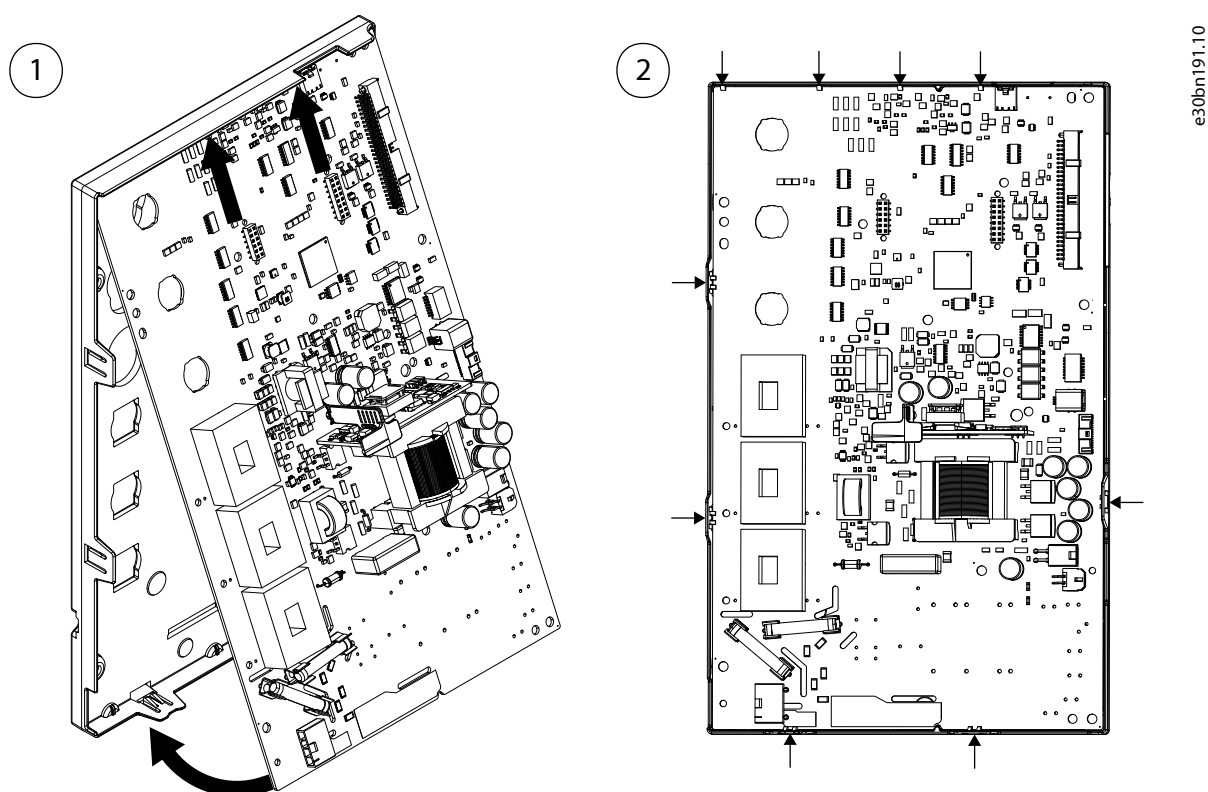

Figure 4: Positioning the Power Interface Board in the Cover
2. Fx06/Fx07: Place the top of the power interface board under the 4 tabs in the cover, see position 1 in Figure 4.